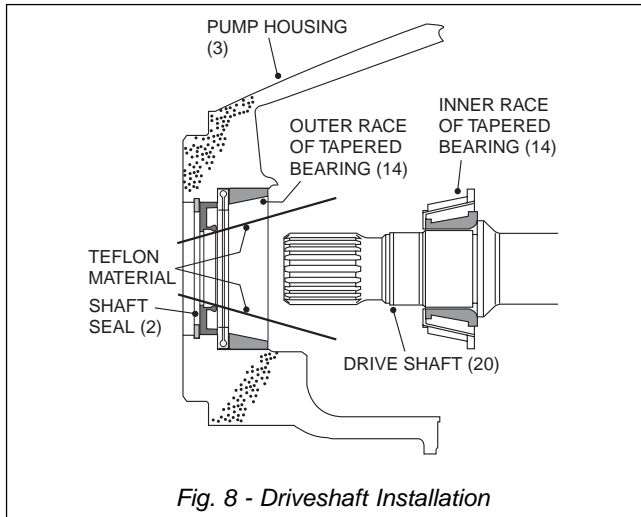
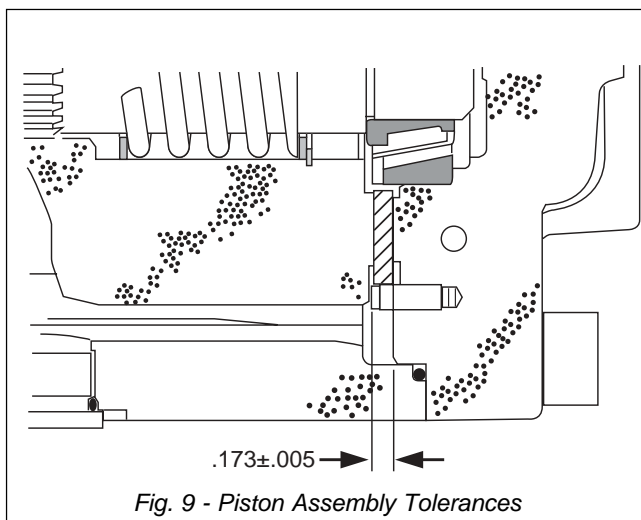

Fig. 8 - Driveshaft Installation
Fig. 9 - Piston Assembly Tolerances
6. Taking inner races of tapered bearings (14 & 24), lubricate races and driveshaft (20) with clean hydraulic oil. Fit bearing races to their respective ends of driveshaft (20).
7. Install driveshaft (20) in pump housing (3) as follows.
Take a piece of shim stock or teflon material large enough to roll into a funnel and protect the seal (2) faces. Insert the teflon into shaft seal (2) as shown in Fig. 8.
8. Pre-assemble bearing swash plate (15) to swash plate (18) using screws (16). Taking spring and locating over domed locator on top of swash plate (18), insert swash plate assembly and spring into bore of pump housing (3). Spring should sit over stepped edge of bore.
9. Fit 'O'-ring (9) over piston control end. Now locate piston control (11) into bore of pump housing (3). Torquing plug (12) to 15 - 25 lbf ft (21-34 Nm).
10. Pre-assemble the rotating group (21); apply a thin coat of clean hydraulic oil to the piston assemblies. Lubricate the bores of the cylinder block with clean hydraulic oil and install pistons into cylinder bores.
11. Align the rotating group with the bearing swash plate (18) assembly. Install rotating group and valve plate (23) into pump housing.
12. Taking roll pin (26), press into end cover (29), ensure the split is orientated away from bearing (24), within 5 degree of the centre line. Pin should protrude from face of end cover (29) within the range stated. Refer to Fig. 9. This will ensure that the valve plate (23) is located correctly.
13. Install a new 'O'-ring (25) on groove in pump housing (3). Taking End cover (29), mate with housing and secure together with 4-off screws (32). Torquing screws to 87 - 107 lbf ft (118 - 145 Nm)